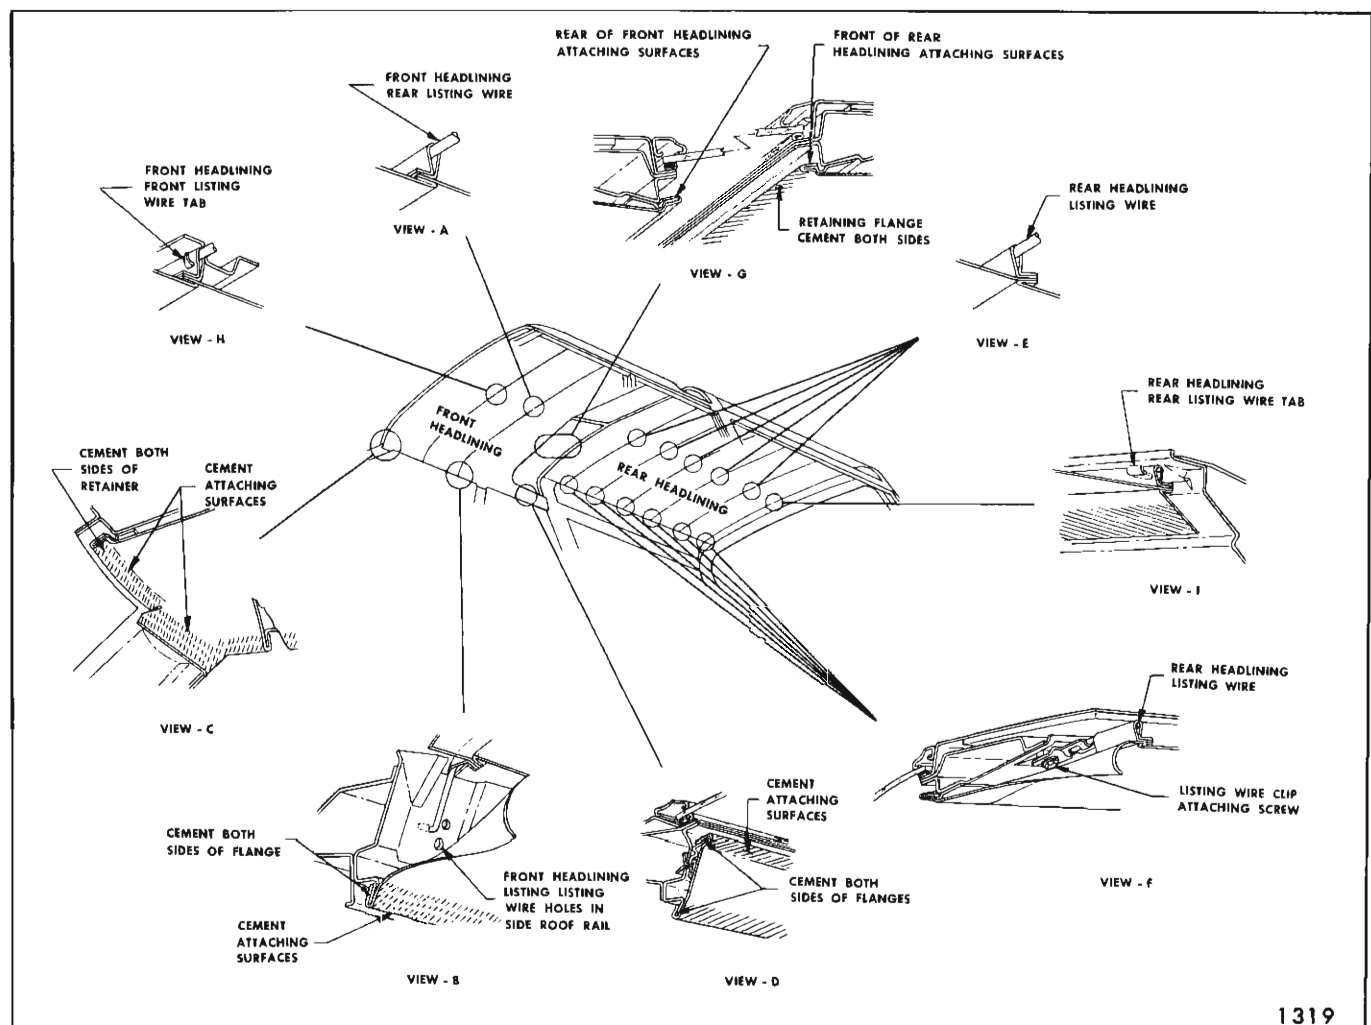

Fig. 2G4—Headlining Installation - "55" and "65" Styles
4. Bend down tab at front listing wire (View "H", Figure 2G4); remove listing wires from inner rails. Gather or roll headlining with listing wires on outside to keep headlining clean and remove old headlining assembly.